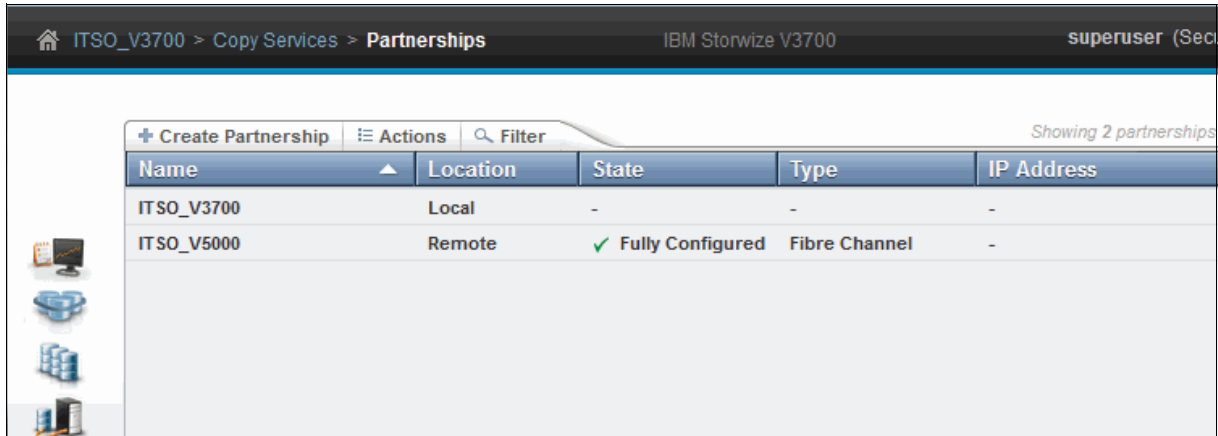

Figure 3-87 Partnerships pane
1. Click **Partnerships** to open the pane shown in Figure 3-87.